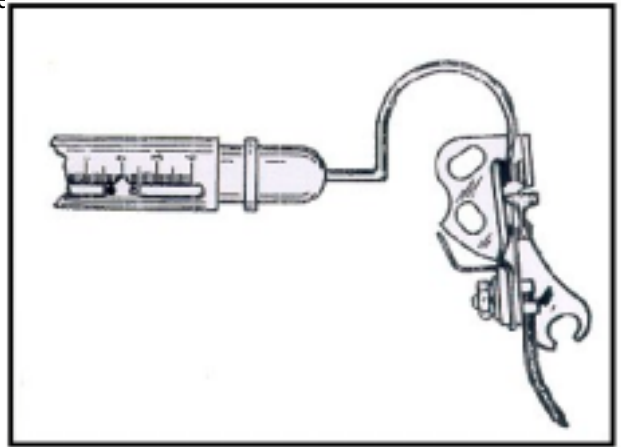

Figure 16. Checking Breaker Spring Tension
- (1) Excessive burning, pitting, etc. of contact points. If the contact points are unsatisfactory, it is recommended that the complete breaker assembly be replaced. The dressing of contact points is not generally advisable. However, in an emergency, contact resurfacing may be accomplished by the use of a very fine flexible carborundum stone known as Flexstone. This stone should be thin enough to dress the points in their assembled position on the breaker. Dressing with a file has generally proven unsatisfactory.
- (2) Check the tension of the breaker spring (see figure 16). Tension should be between 15 and 30 ounces for LA models, and between 10 and 18 ounces for AM units.